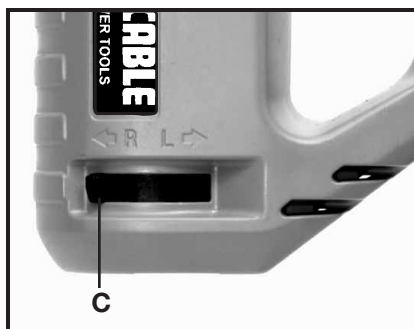

Fig. 2
This model is provided with a reversing switch (C) Fig. 2. The machine will operate in either the “right-hand” direction (clockwise rotation) for drilling holes, or the “left-hand” direction (counterclockwise rotation) for freeing jammed drill bits. To change the direction of rotation: STOP the motor by releasing the trigger switch and move the reversing switch as far as it will go in the desired direction (as indicated by the arrows molded into the machine housing).